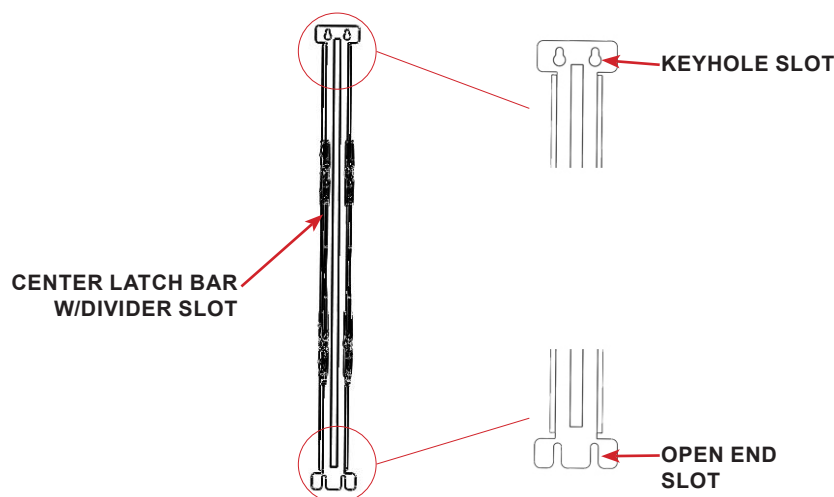

FIGURE 3.15 - Cage With End and Top Panels
*The center latch bar has keyed (hole with a smaller slot) top holes. And the bottom of the center latch bar uses open end slots at the end of the bar, enabling the bar to be slid out from behind the center latch bar retaining pins. See FIGURE 3.15*